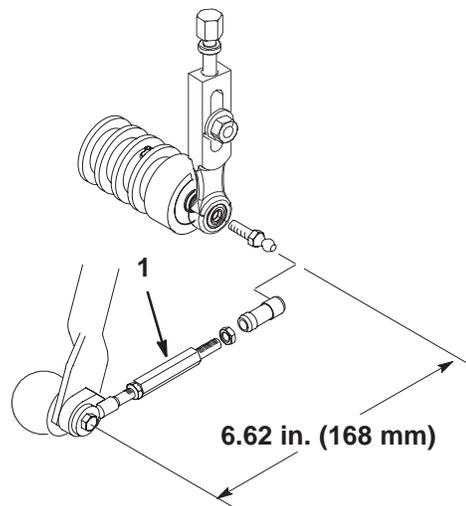

Figure 6
- Install new longer pull arm extensions to pull arms and ball joint receivers (Fig. 6).
- Adjust pull arm extensions to attain dimension shown in Figure 6. Tighten jam nuts.